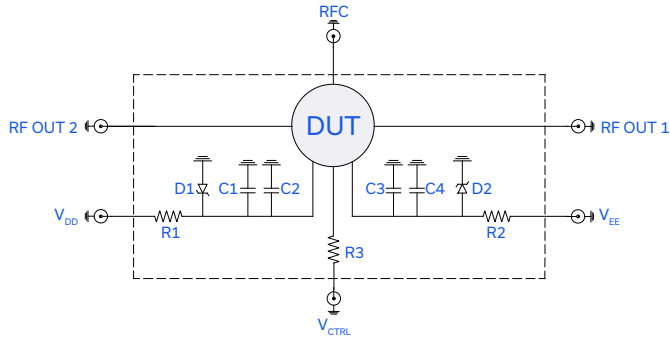

Figure 3. M3SWA2-34DR-D+ Characterization and Application Circuit
- Refer to the table in Figure 3 for more details on the passive components.